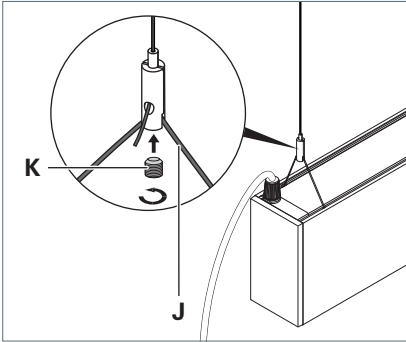

Fig. 5: Fastening the luminaire to the wire rope holder.
- Insert the wire rope **J** of the luminaire into the wire rope holder, see Fig. 5.